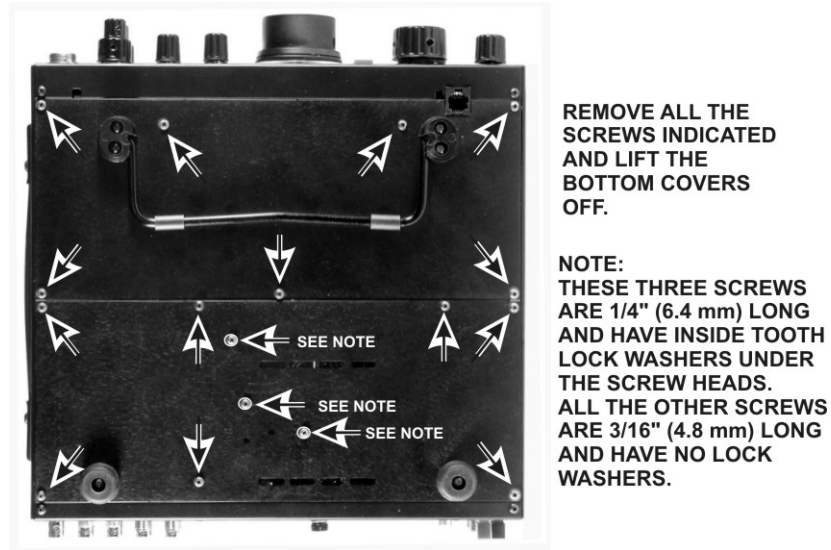

Figure 6. Removing the Bottom Covers.
- Turn the K3 upside down and remove the bottom covers (see Figure 6).
Replace both bottom covers using the 4-40 black pan head screws you removed earlier. Note that three locations take the 4-40 1/4" (6.4 mm) black pan head screws with lock washers as shown in Figure 6, while the remainder are 4-40 3/16" (4.8 mm) screws. Be sure to replace these screws in the correct locations. Make sure all the screws are secure, but do not over tighten them/
**Failure to replace the three 1/4" (6.4 mm) screws with their lock washers in the locations shown in Figure 6 may destroy the power transistors in your K3!**